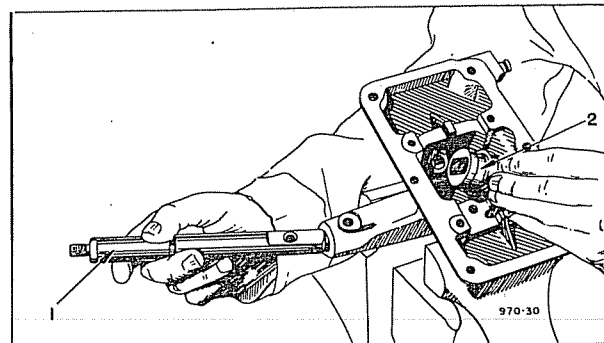

Fig. 11—Removing Gearshift Lever Shaft and Lever.
- (8) Pull out the gear shift lever shaft. At the same time lift the gear shift lever out of the cover. (Figure 11).